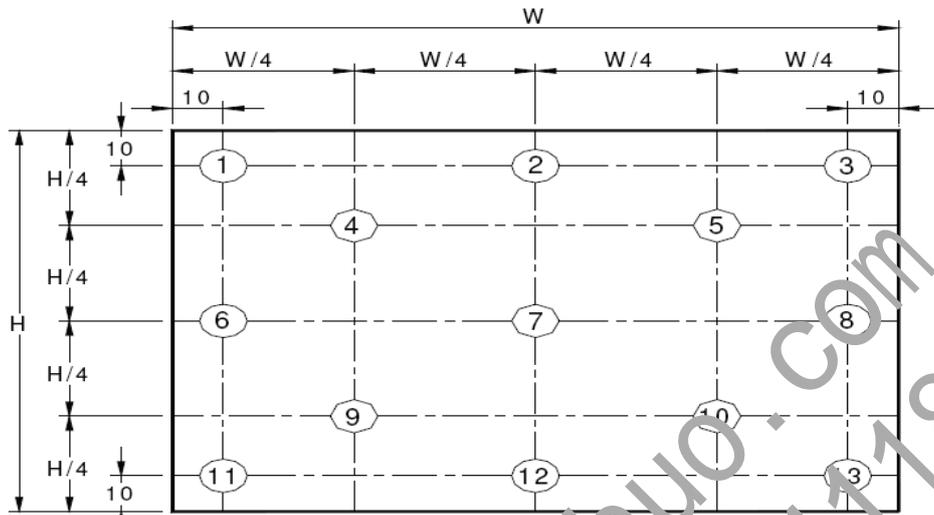

Figure 9. Uniformity Measurement Locations (13 points)
- The White luminance uniformity on LCD surface is then expressed as :  $\Delta Y = \text{Minimum Luminance of 5(or 13) points} / \text{Maximum Luminance of 5(or 13) points}$ . (see Figure 8 and Figure 9).
The White luminance uniformity on LCD surface is then expressed as:  $\Delta Y_5$  = Minimum Luminance of five points / Maximum Luminance of five points (see Figure 8),  $\Delta Y_{13}$  = Minimum Luminance of 13 points / Maximum Luminance of 13 points (see Figure 9).